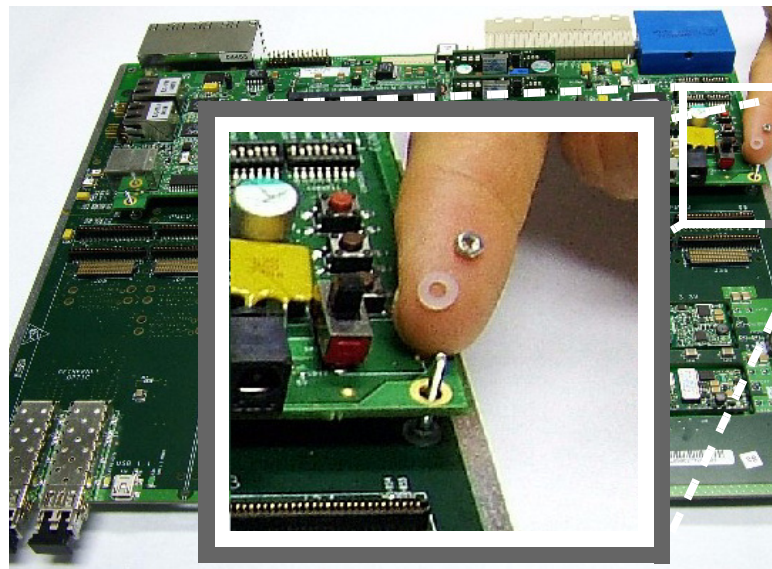

Figure 2-7 Fasten the four tightening screws
5. Manually fasten the four screws as shown in Figure 2-7.